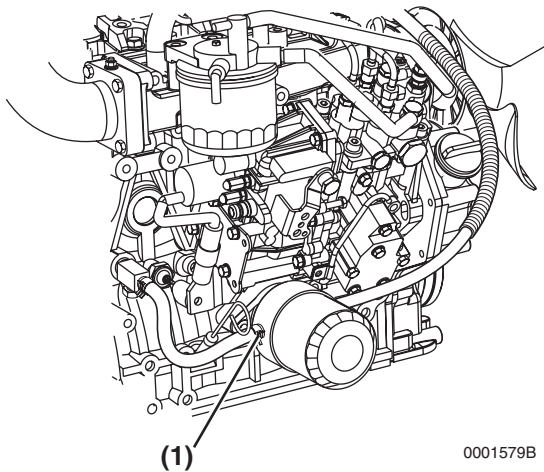

Figure 5-18
- On models equipped with an oil cooler, remove the coolant hose (**Figure 5-18, (1)**) at the oil cooler.